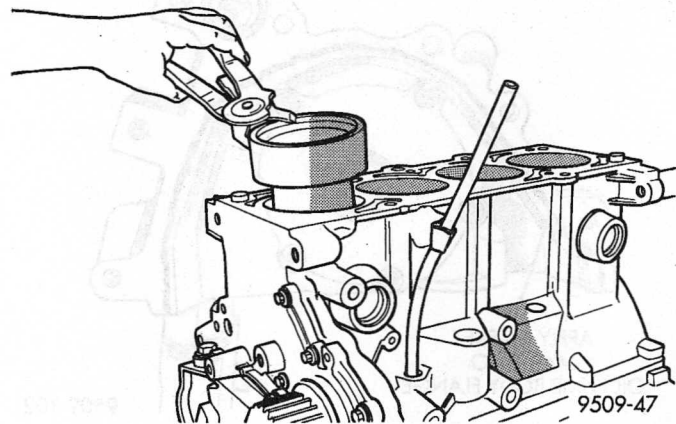

Fig. 93 Piston-Installation
(3) Immerse the piston head and rings in clean engine oil, slide the ring compressor, over the piston (Fig. 93). **Be sure position of rings does not change during this operation.**